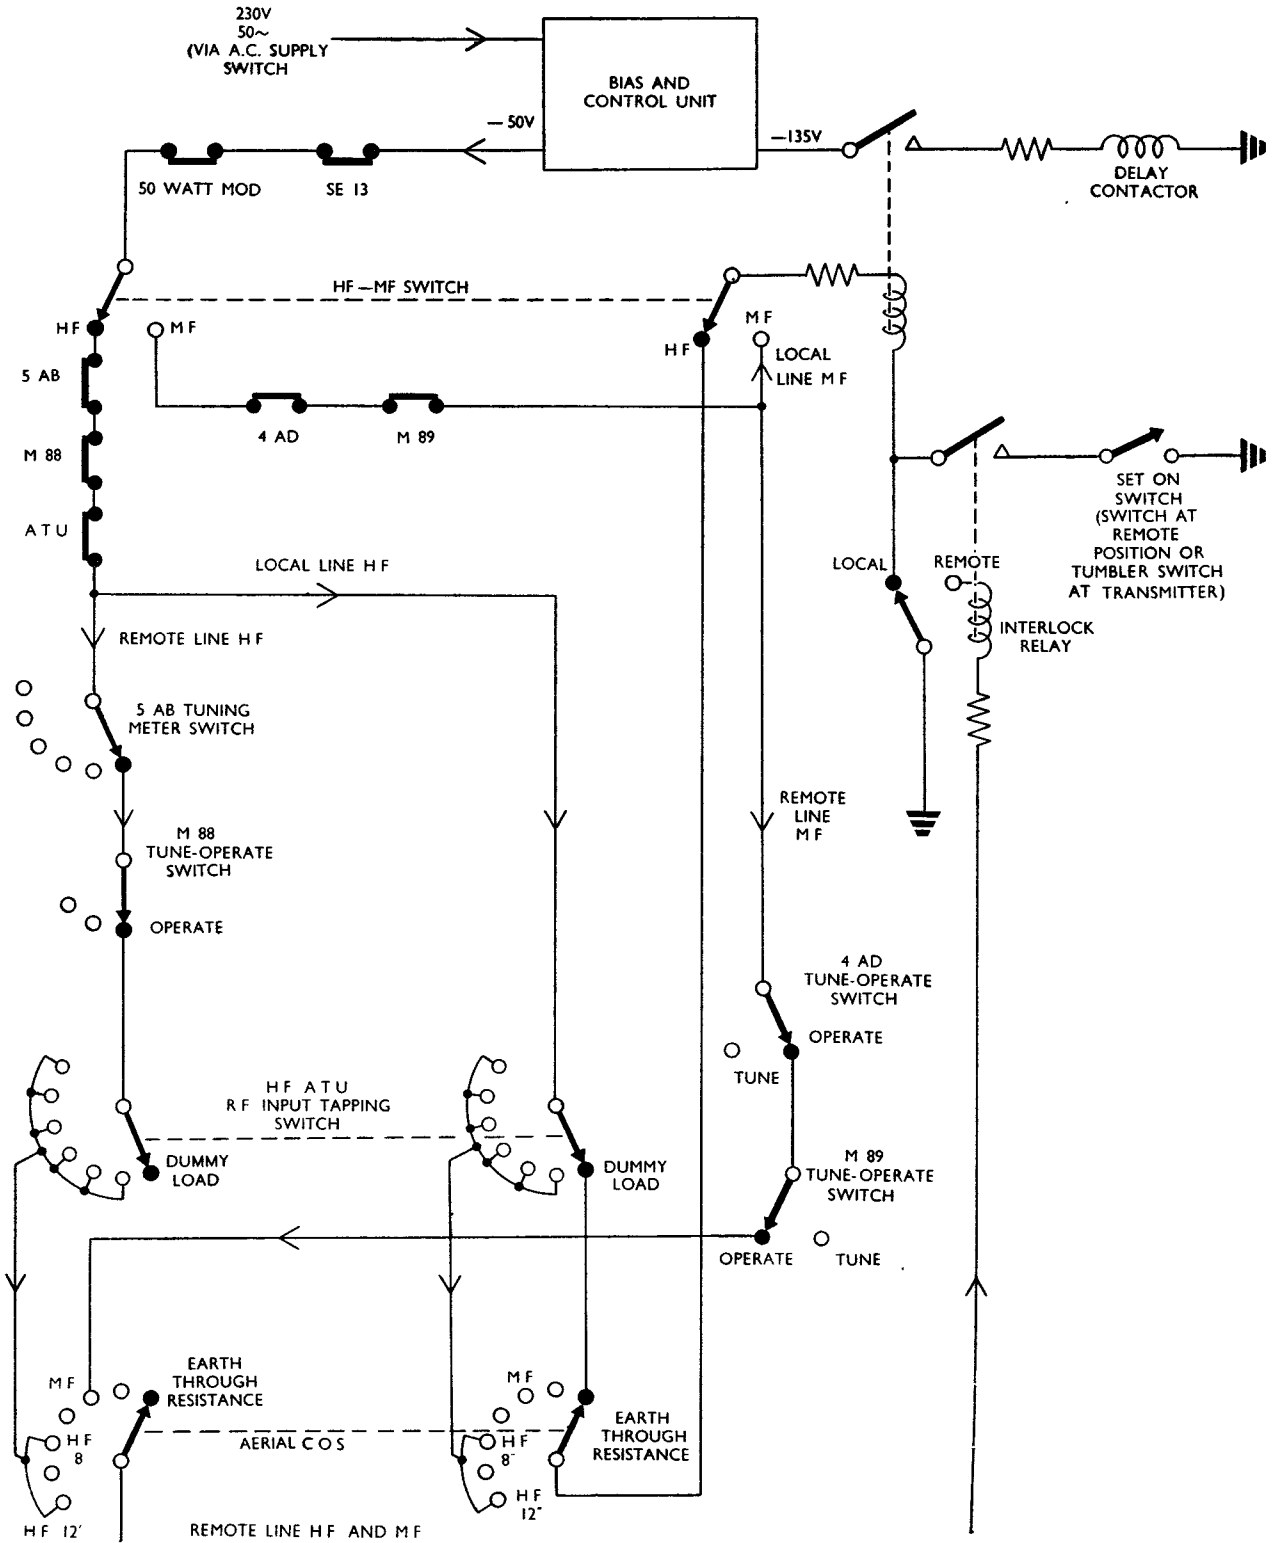

FIG. 5. INTERLOCK AND SET ON RELAYS
44. Operation of Interlock and Set on Relays (See Fig. 5)